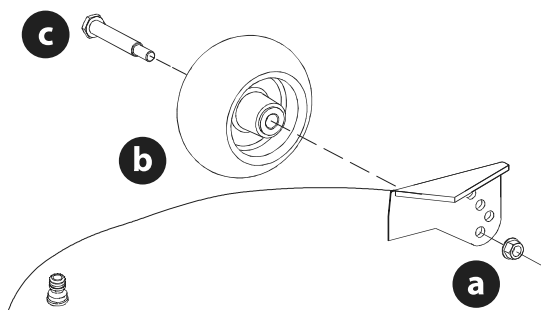

Figure 12
6. Remove the lock nut (a), gauge wheel (b) and shoulder screw (c) from the deck (Figure 12).